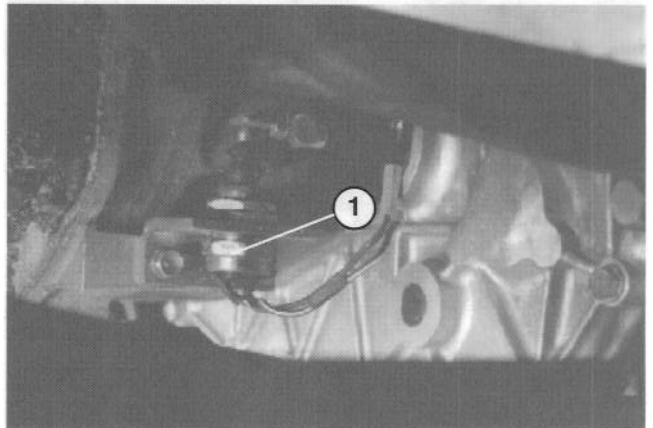

Figure 49
7. Recheck clutch safety switch adjustment (Fig. 49). Engine must not crank unless clutch pedal is $.90" \pm .12"$ from floor. If an adjustment is required, loosen switch jam nuts and adjust up or down.